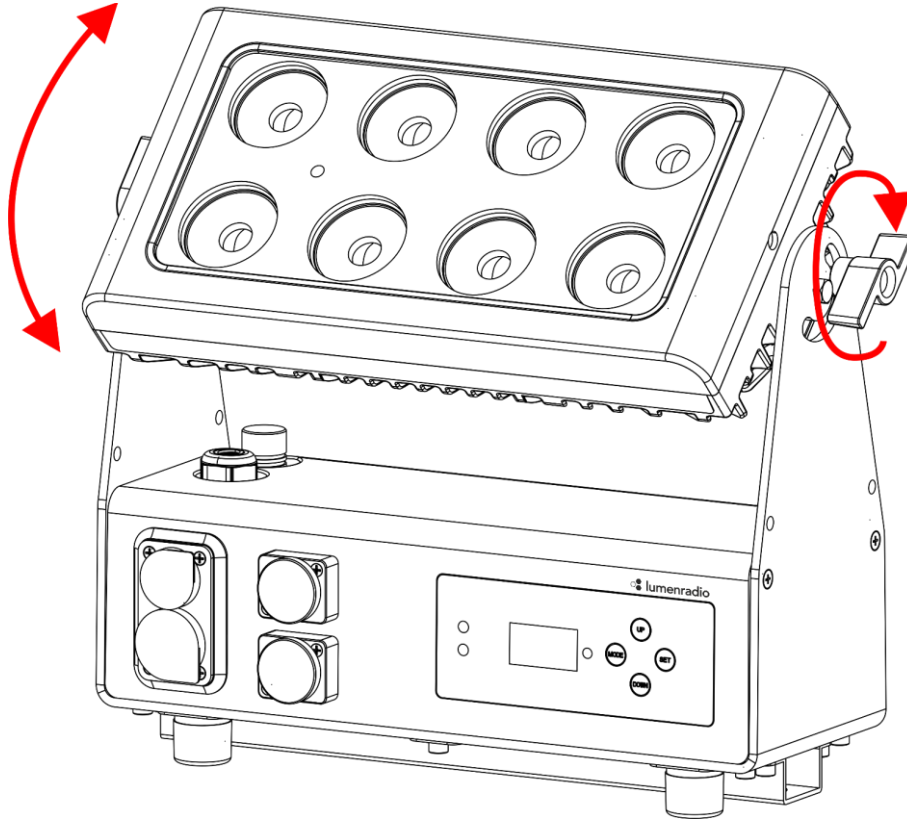

Fig. 15
- 01) Turn the **adjustment screws (02)** counterclockwise to release them.
- 02) Tilt the device at the desired angle (see Fig. 15).
- 03) Turn the **adjustment screws (02)** clockwise to tighten them. Make sure that the device cannot move freely after the **adjustment screws (02)** are tightened.